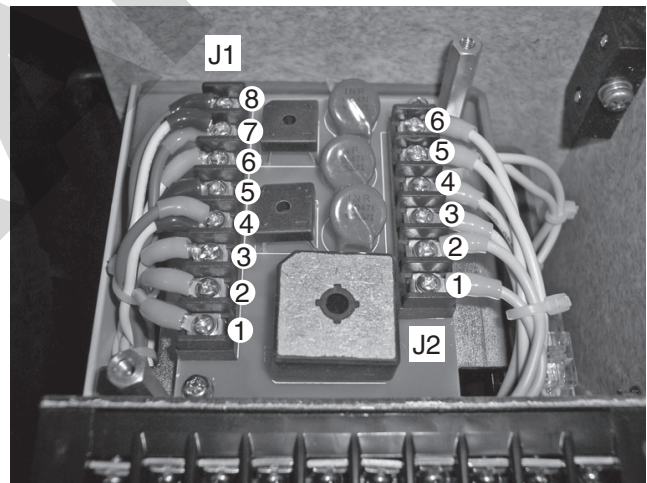

Figure 4. PCB Layout (view as installed from top looking down)
3. For the purpose of testing, the PCB layout is as follows (see Figure 4).